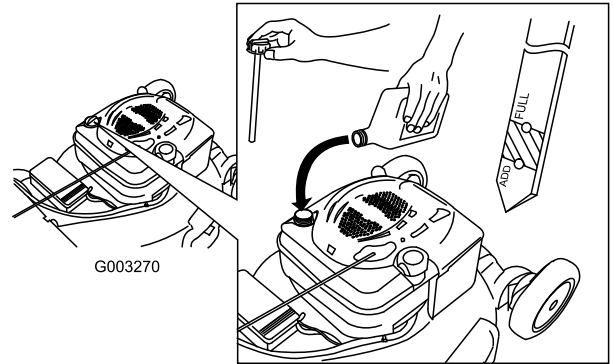

Figure 11
1. Remove the dipstick, wipe it clean, and fully install the dipstick (Figure 11).
2. Remove the dipstick and check the oil level (Figure 11). If the oil level is below the Add mark on the dipstick, **slowly** pour oil into the oil fill tube to raise the oil level to the Full mark on the dipstick. **Do not overfill.** (Max. fill: 20 oz. (0.59 l), type: SAE 30W detergent oil with an API service classification of SF, SG, SH, SJ, SL, or higher.)